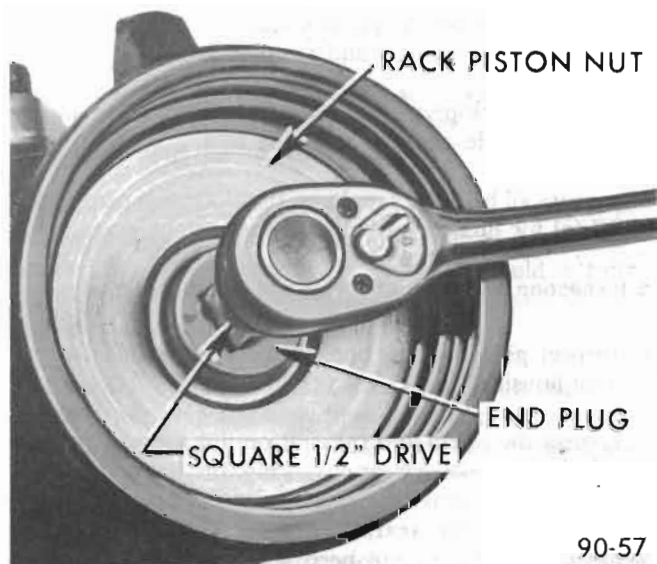

Figure 90-57 Removing Rack-Piston Nut End Plug
6. Remove rack-piston nut end plug with a 1/2" square drive. See Figure 90-57.